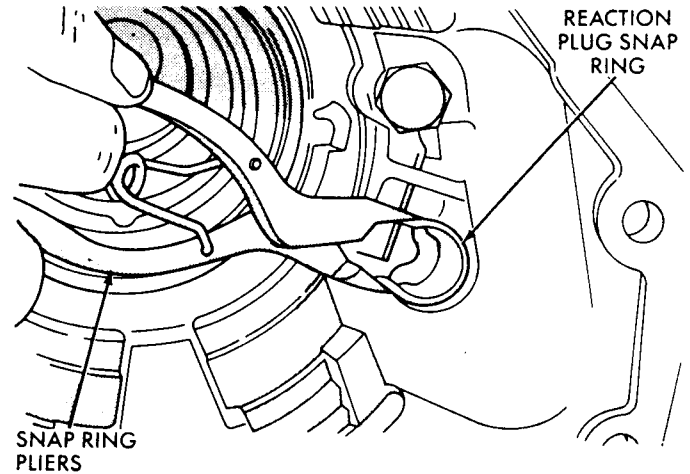

Fig. 14—Reaction Plug Snap Ring
(10) To remove parking mechanism, first remove reaction plug snap ring (Fig. 14). **Compress snap ring just enough to allow its removal.**